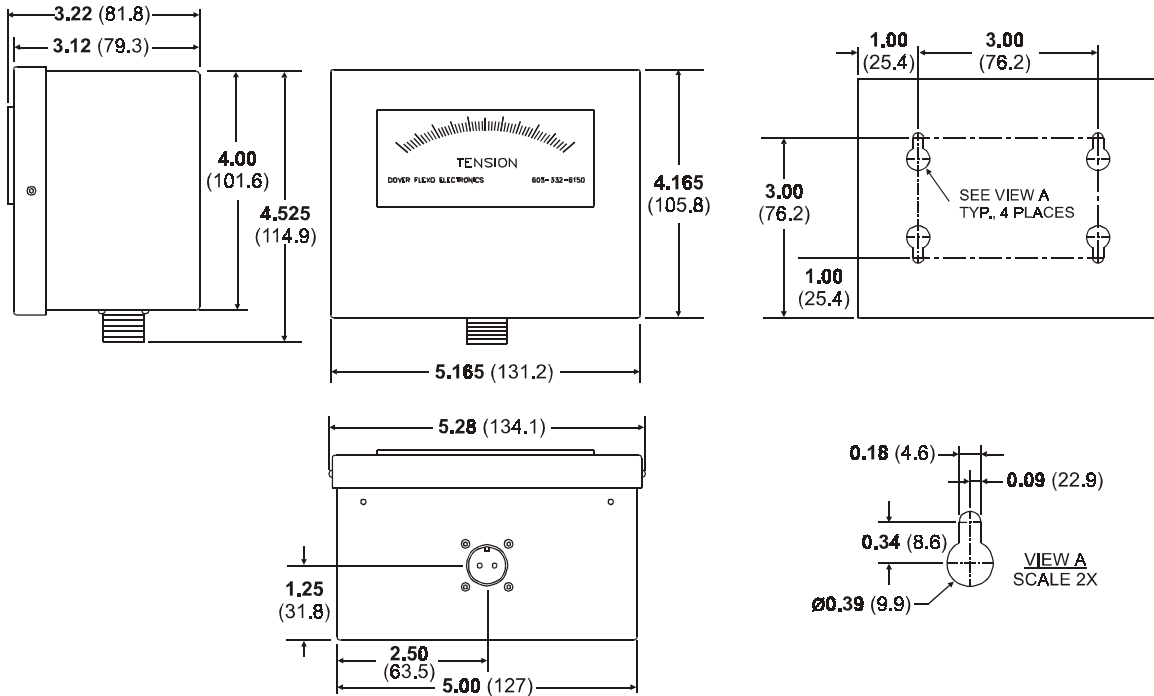

Figure 2 - DIMENSIONS
11. If you intend to use the optional analog tension meter, refer to Fig. 2 for mounting dimensions of the meter enclosure.